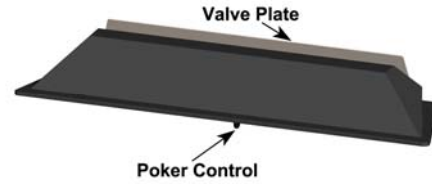

Figure 12. Damper
H. Install the cast iron damper. See Figures 12 and 13. Attach poker handle through damper to damper door. Set damper on top of firebox with handle facing toward front of the fireplace. The bottom lip of the damper should rest on the firebrick with the front lip resting on the front header